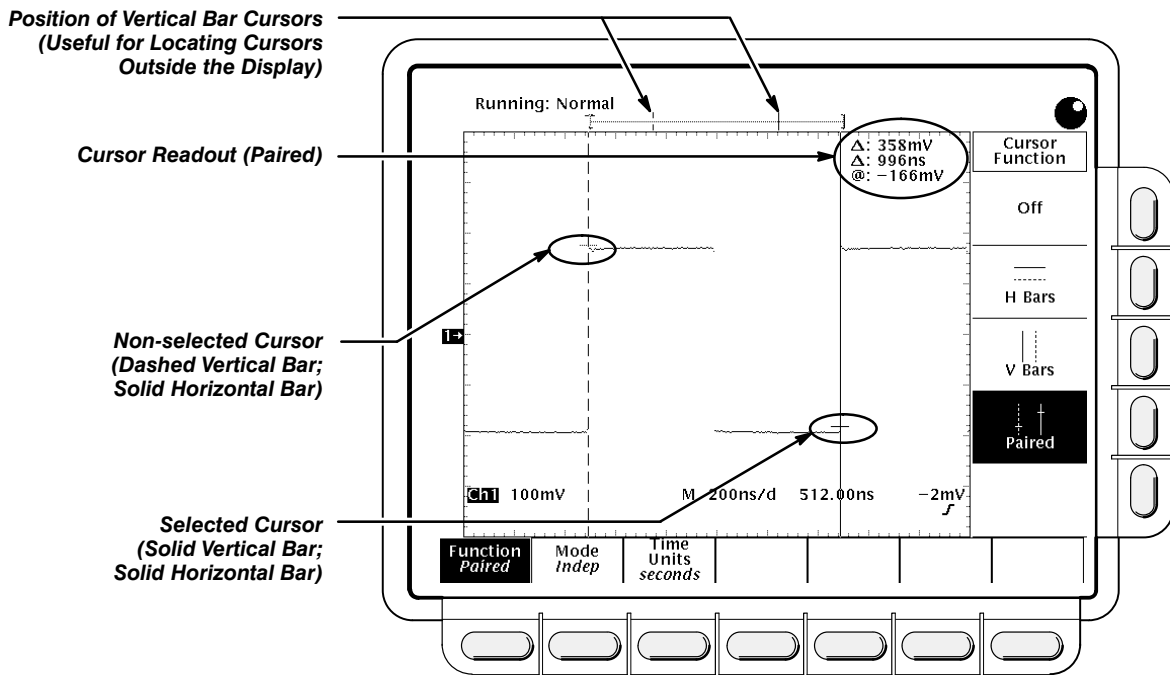

Figure 3-8: Paired Cursor Menu and Readouts
- **Paired:** the value after one Δ shows the voltage difference between the two short horizontal bars; the other Δ shows the time (or frequency) difference between the two long vertical bars. The value after @ shows the voltage at the short horizontal bar of the selected cursor relative to ground (see Figure 3-8).